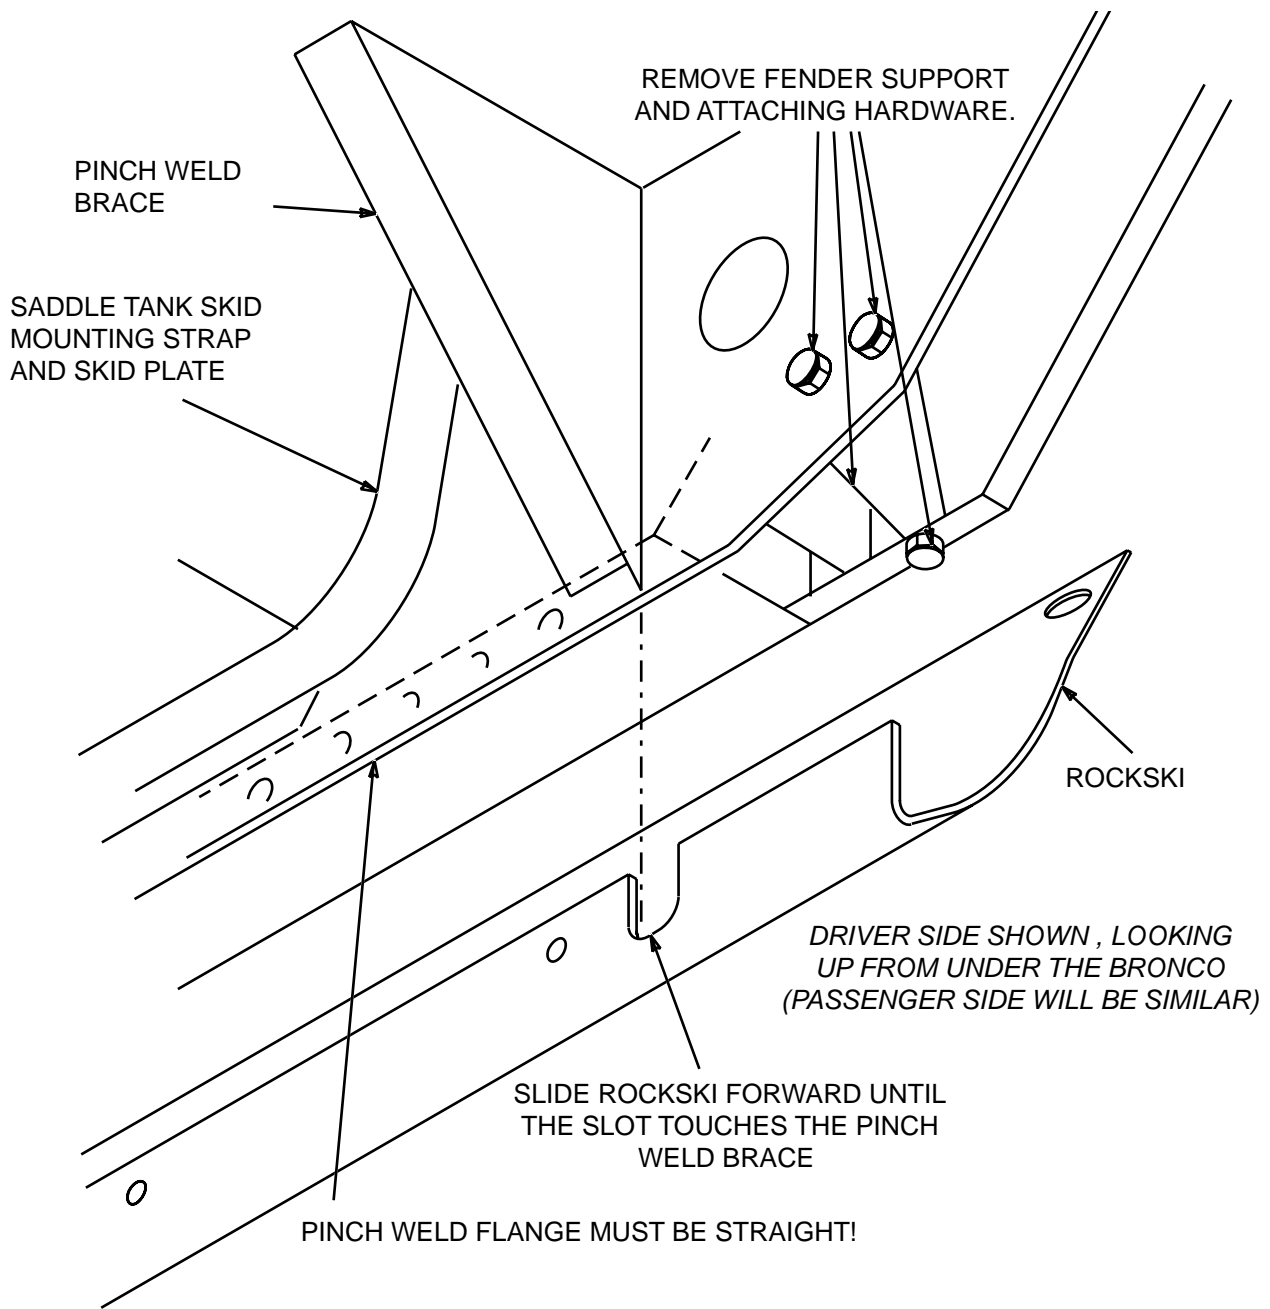

Figure 3
3. Align the RockSki right and left, making sure that the notch in the inside nearest the front fender fits around the brace on the backside of the rocker panel pinch weld. Push the RockSki as far forward (towards the front of the Bronco) as the notch will allow. See Figure 3.
4. With the jack, raise the RockSki up between body and fender flare until it bottoms out. Watch for hang-ups, usually around the notch at the front of the RockSki. See Figure 3.
5. Align the RockSki right and left, making sure that the notch in the inside nearest the front fender fits around the brace on the backside of the rocker panel pinch weld. Push the RockSki as far forward (towards the front of the Bronco) as the notch will allow. See Figure 3.